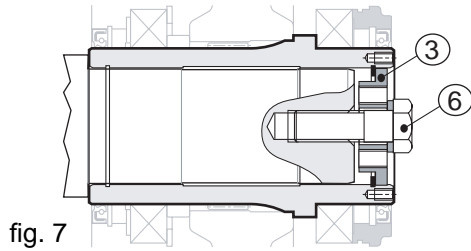

fig. 7
unscrew the threaded rod nut (pos. 4) and take it out of its seat. Replace the rod (pos. 4) with screw (pos. 6), torquing it down fully to the torque value shown in the "torque settings" table" in section 9.1, using an intermediate threadlocker. Piv Posiplan recommends LOCTITE 601 (see Fig. 7).